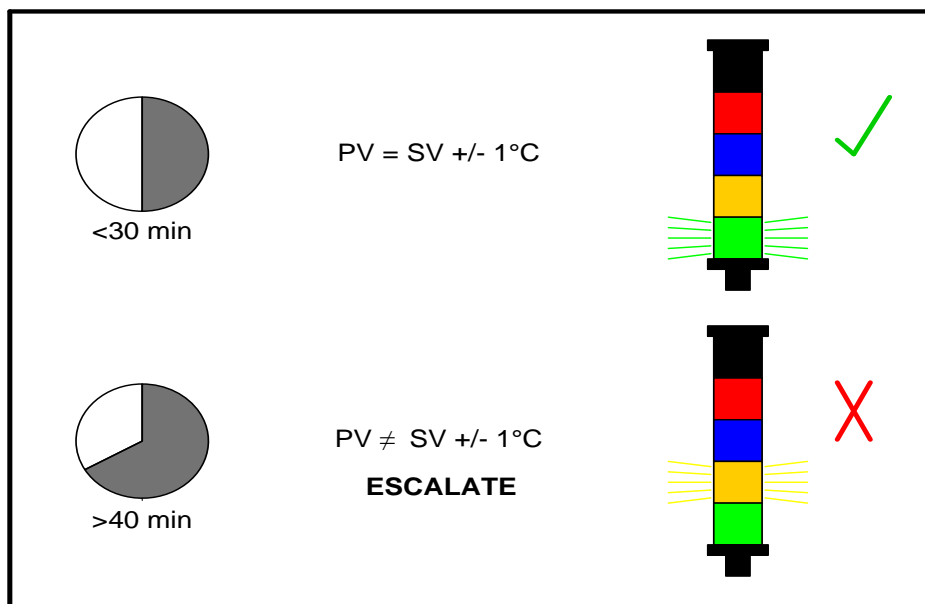

FIG 15
- The Process Temperature (**PV**) within the Printer should move towards and stabilize within +/- 1°C of the Set Value Temperature (**SV**) in approximately 30 minutes (FIG15).